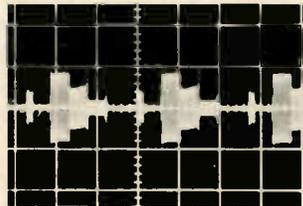

Figure 19 With scope at the same pin 1, the chroma-bar sweep pattern should be as shown.
4. Check the chroma only signal at pin 1 (CO) on the comb filter PC board. The Bar Sweep pattern should appear as that shown in Figure 18 with only the 3.58MHz bar being present. The Chroma Bar Sweep pattern should appear with all bars present as shown in Figure 19.